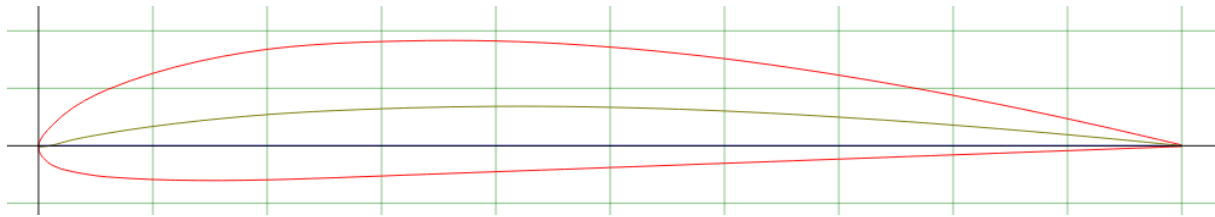

Figure 3.1: Clark Y airfoil shape.
One of the very popular airfoil is so called CLARK Y. This shape (see fig. 3.1) has flat bottom surface and thus easy to build. Some data about this airfoil shape was taken from internet airfoil database (AirfoilTools Contributors 2020).
- see fig. 3.1